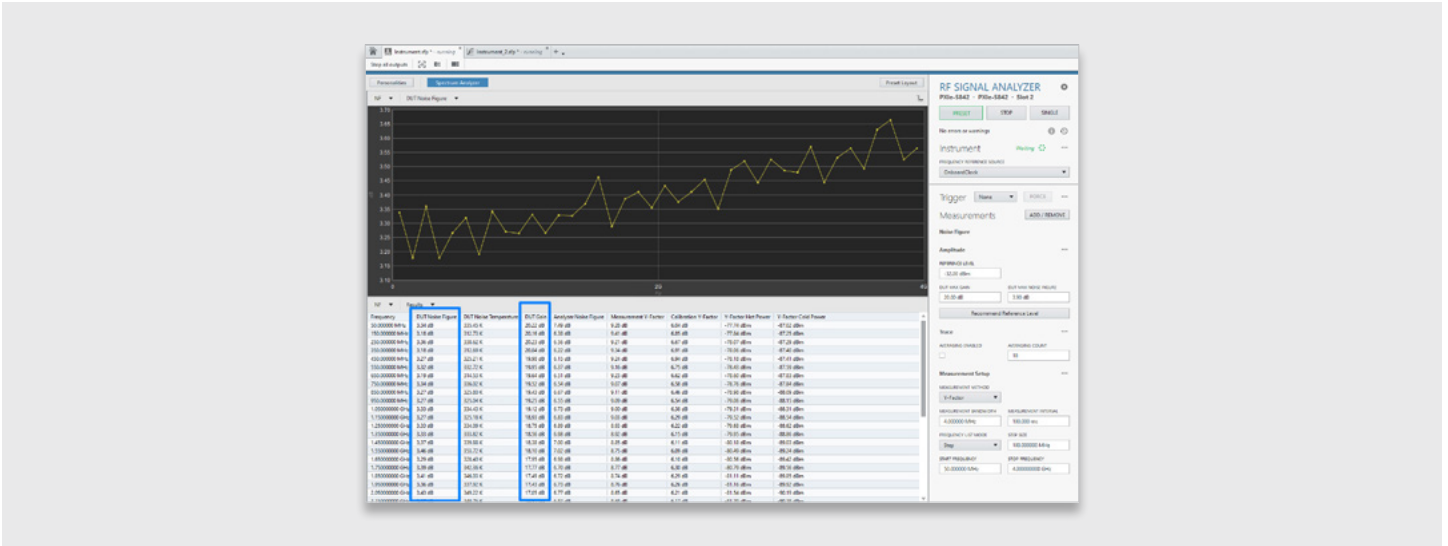

FIGURE 17
- Click **RUN** and the measurement steps will execute resulting in the final noise figure measurements of the DUT (see Figure 17):